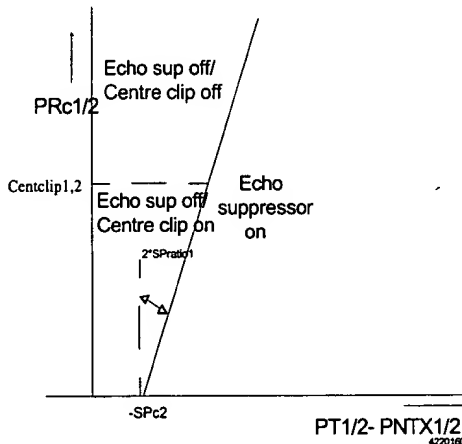

FIGURE 20. Echo suppressor modes
The echo suppressors (ES) suppresses the echoes of the transmitted signal with programmable attenuations, thresholds, ratios and time constants. (see Figure 20)